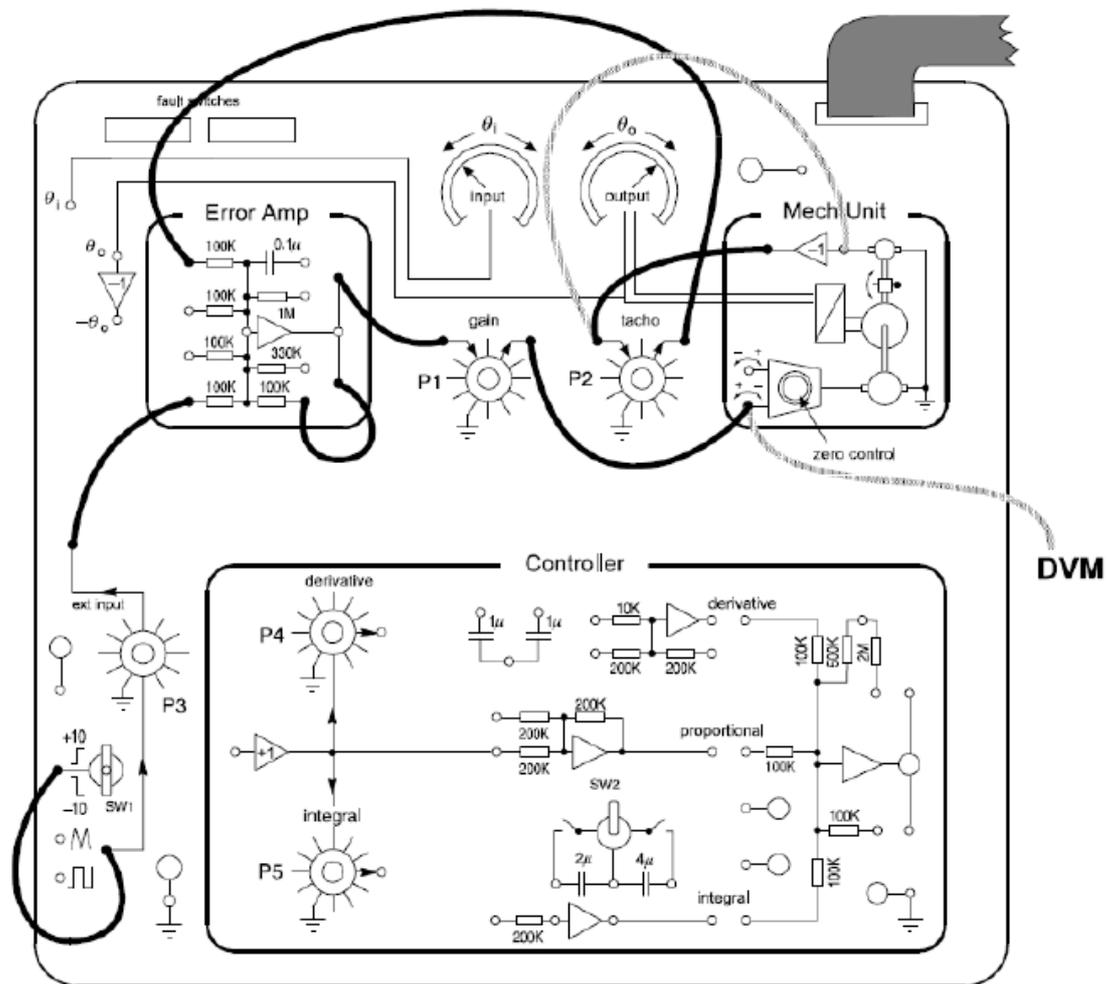

Figure 11. Connections for PART V.
1. Arrange the system as in Figure 11. Set P2 (tacho) to zero and set the amplifier feedback resistor to 100 k, this gives $G = 1$. Set P1 to 100. Set SW1 up to +10 and adjust P3 to run the motor at 1000 r/min (31.25 r/min at output).